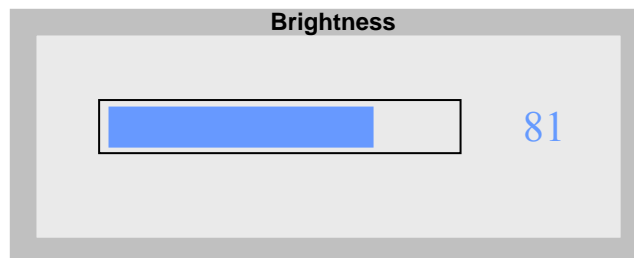

Figure 23: Brightness
- The Brightness indicator bar appears, see Figure 23.